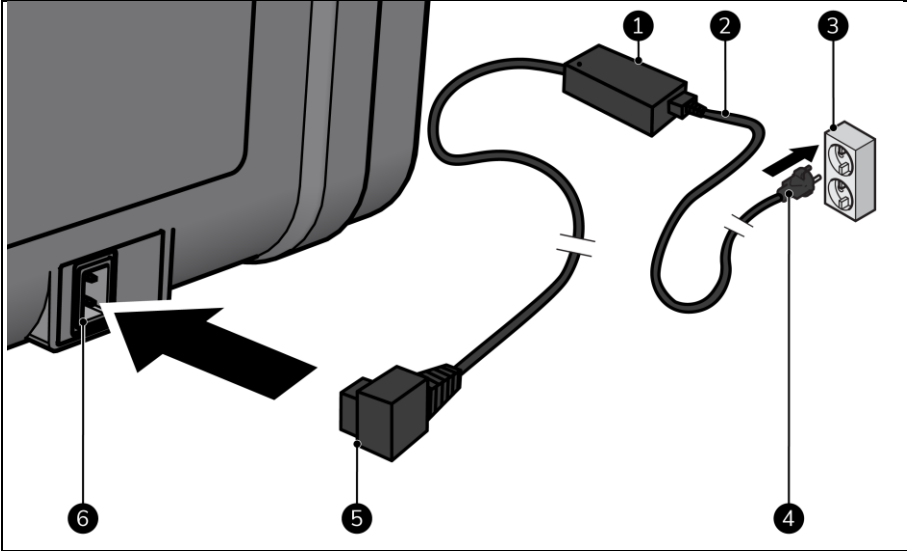

Figure 7
3. Place the AC cable (Figure 7, pos. 2) into of the AC/DC adapter (Figure 7, pos. 1).
4. Place the AC/DC adapter plug (Figure 7, pos. 5) into the power supply of the device (Figure 7, pos. 6).
5. Place the power plug (Figure 7, pos. 4) into an easily accessible wall socket (Figure 7, pos. 3).